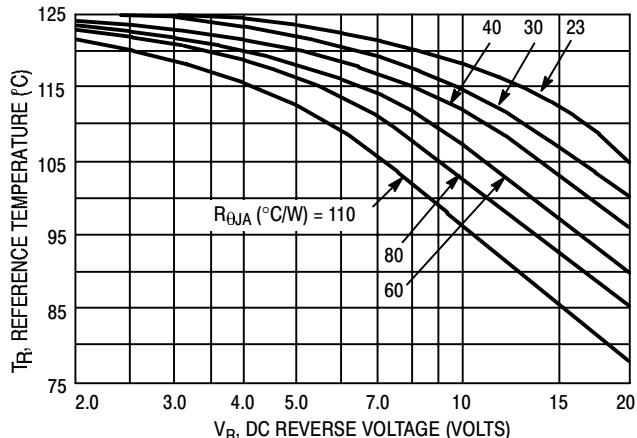

Figure 1. Maximum Reference Temperature
Taped Component Dimensions - Figure 1
Figures 1, 2, and 3 permit easier use of equation (1) by taking reverse power dissipation and thermal runaway into consideration. The figures solve for a reference temperature as determined by equation (2).
Inspection of equations (2) and (3) reveals that T_R is the ambient temperature at which thermal runaway occurs or where $T_J = 125^\circ\text{C}$, when forward power is zero. The transition from one boundary condition to the other is evident on the curves of Figures 1, 2, and 3 as a difference in the rate of change of the slope in the vicinity of 115°C. The data of Figures 1, 2, and 3 is based upon dc conditions. For use in common rectifier circuits, Table 1 indicates suggested factors for an equivalent dc voltage to use for conservative design, that is: